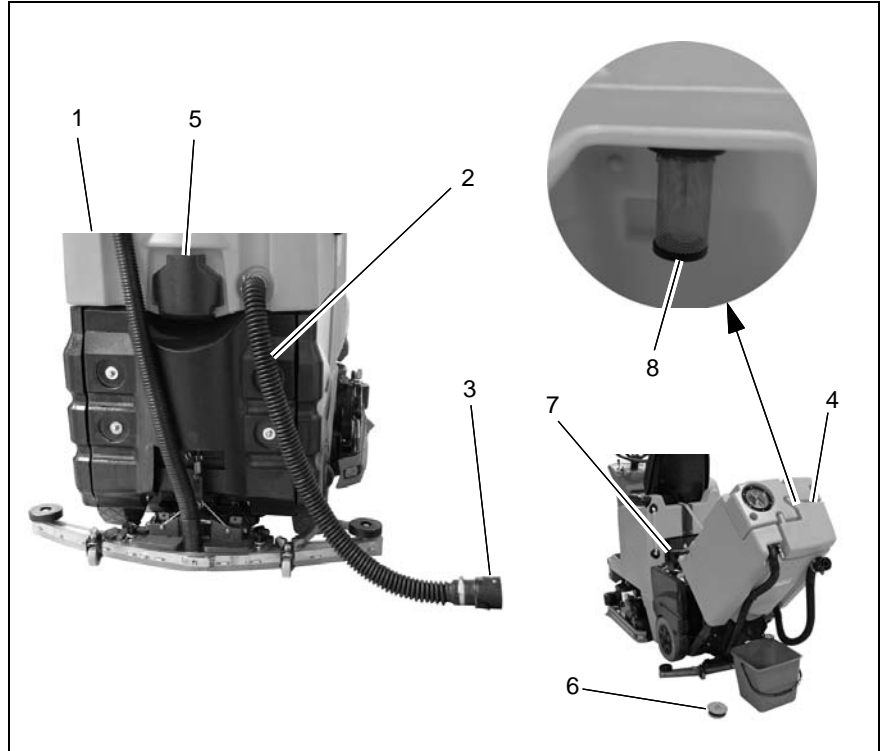

Fig.12
Empty the recovery tank (Fig. 12/1) every day or as necessary.
2. Park the vehicle so that the draining hose (Fig. 12/2) reaches the drain in the floor.
4. Remove the draining hose from the holder, open the lock (Fig. 12/3) and empty the recovery tank completely.
Clean the recovery tank (Fig. 12/1) every day or as necessary.
2. Open the tank cap (Fig. 12/4) on the recovery tank.
3. Open the flap (Fig. 12/5), loosen the wing nuts on the plugs (Fig. 12/6) a little and remove the plugs.
4. Open the locks (Fig. 12/7) on the recovery tank and pivot the recovery tank to the rear.
Check the function of the air intake filter (Fig. 12/8) and clean it as necessary. The air intake filter can be accessed over the tank cap and it can be pulled from the nozzles.